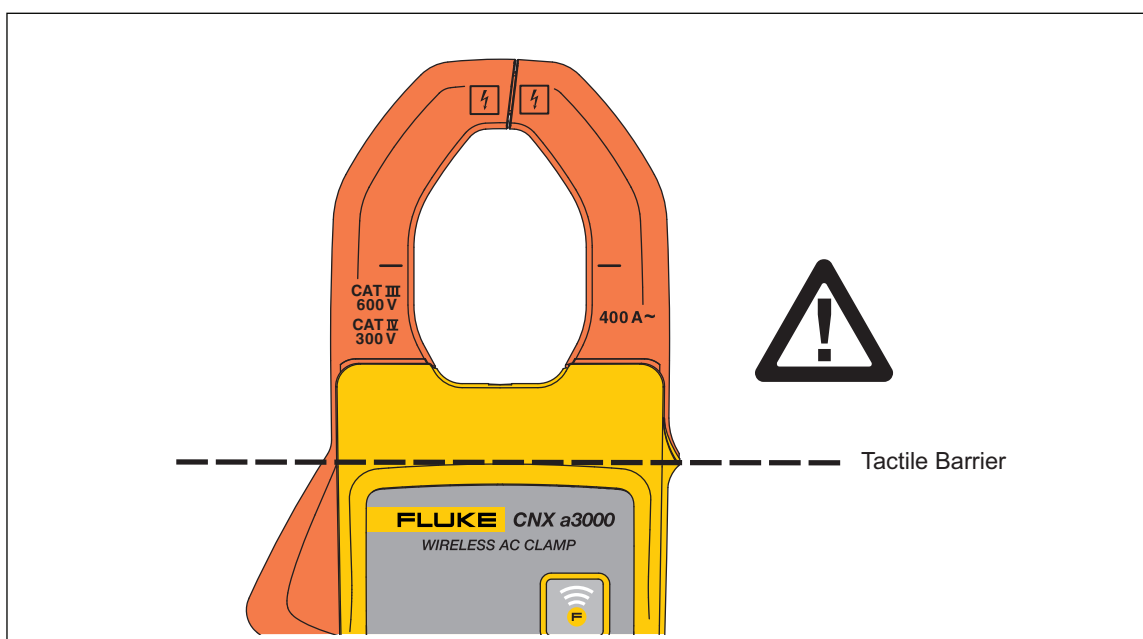

Figure 1. Tactile Barrier
- When measuring, keep fingers behind the Tactile Barrier. See Figure 1.